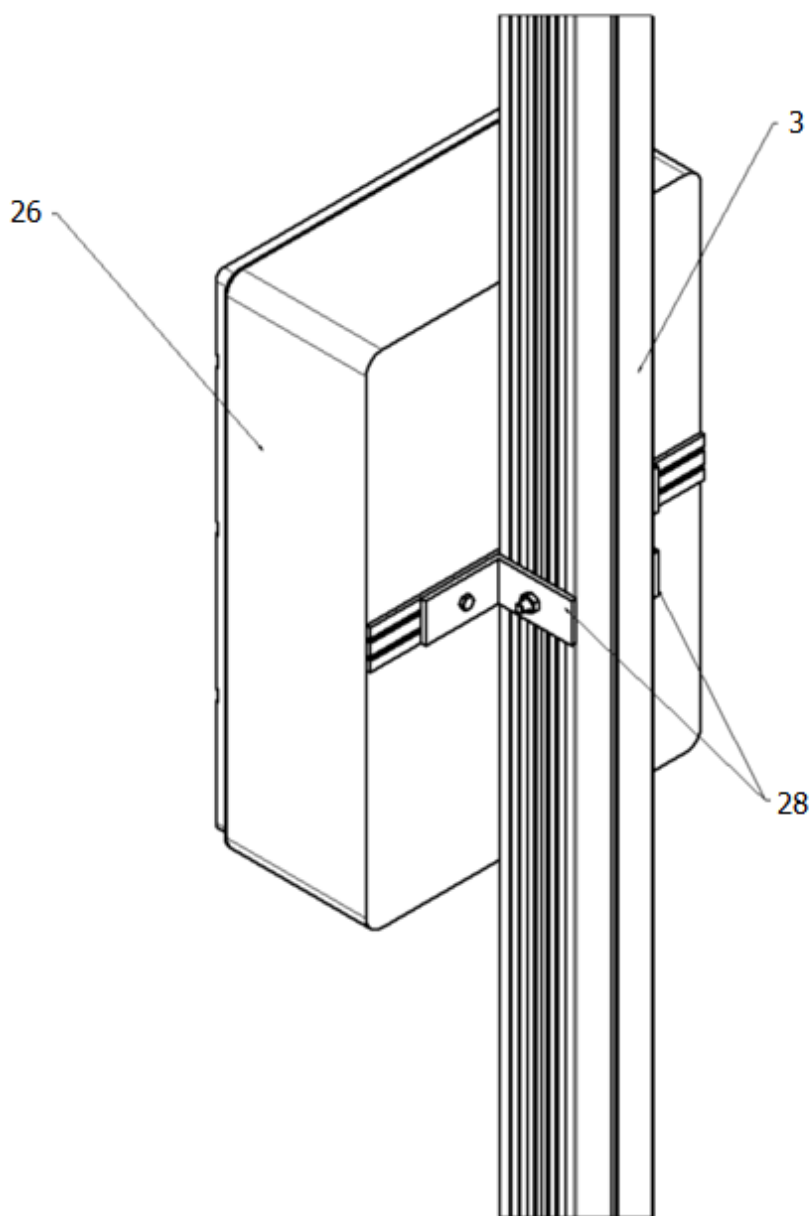

Figure 18. The method of attaching the inverter to the pole.
- Attach the inverter to the pole using two brackets (2, 8) according to Figure 18.